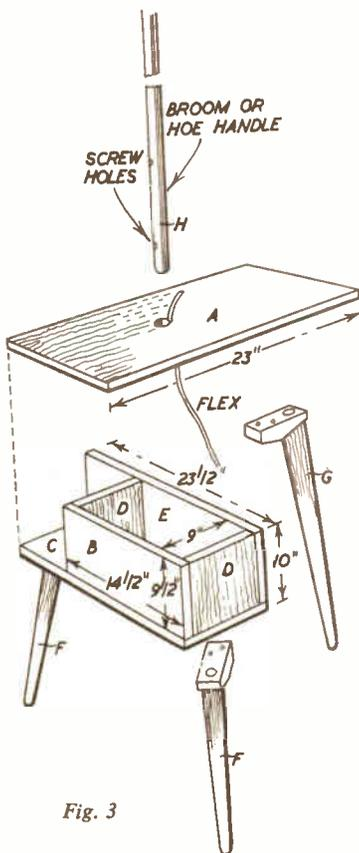

Fig. 3
The exploded view in Fig. 3 shows various measurements and gives a clear picture of assembly. Pieces (A), (B), (C), (D) and (E) are all $\frac{1}{2}$ in. wood, and may be cut from Hobbies standard panels. The top (A) may be $\frac{1}{2}$ in. plywood, or may consist of a 10ins. and a 6ins. panel joined together by the